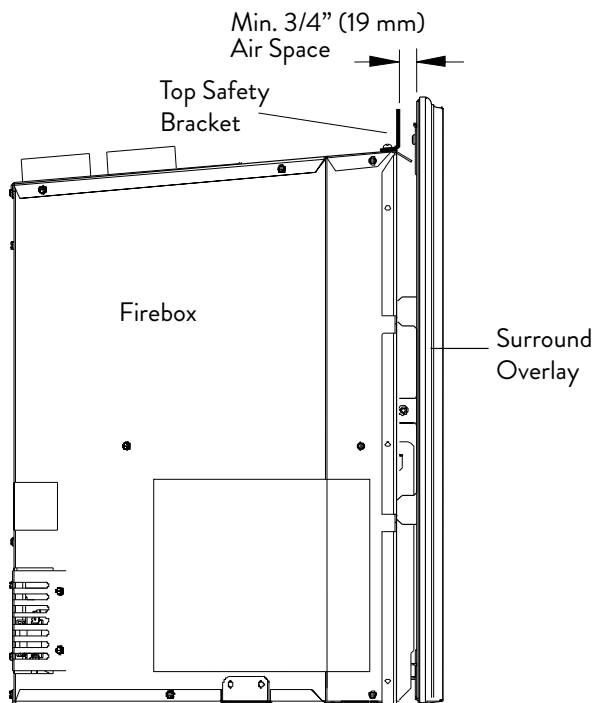

Figure 66b. **Note: A minimum 3/4 inch air gap must be maintained between the Overlay and the fireplace face..**
**WARNING!** See Fig. 66b below.